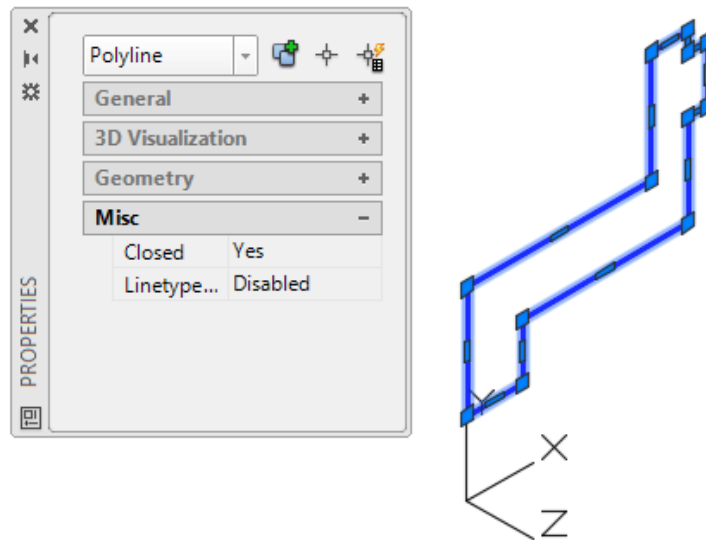

Figure Step 7
Step 7 Using the JOIN command, create a closed polygon from the lines. Ensure that it is closed. (Figure Step 7)